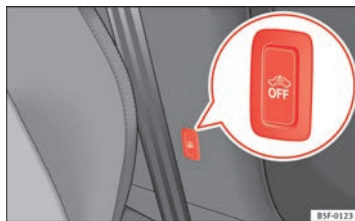

Fig. 51 Vehicle interior monitoring/tow-away protection button
- To switch off the vehicle interior monitoring and tow-away protection, switch off the ignition and press button ⇒ Fig. 51. The button will light up. ▶